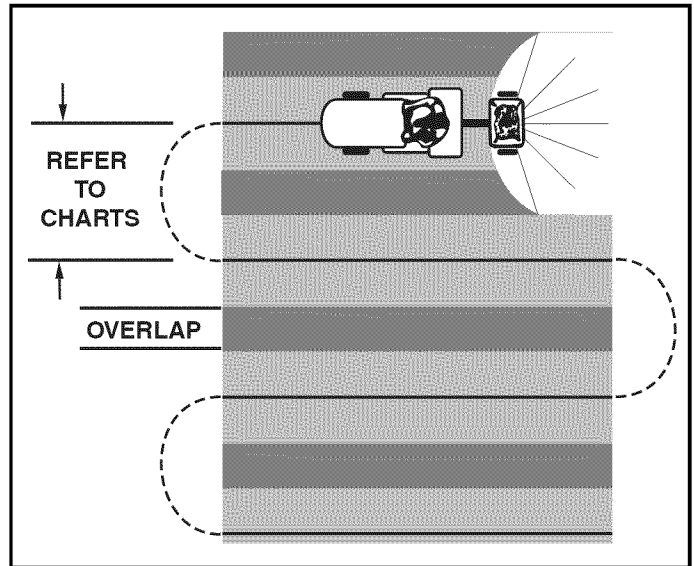

FIGURE 17
8. To insure uniform coverage, make each pass so that the broadcast pattern slightly overlaps the pattern from the previous pass as shown in figure 17. The approximate broadcast widths for different materials are shown in the application chart on this page.